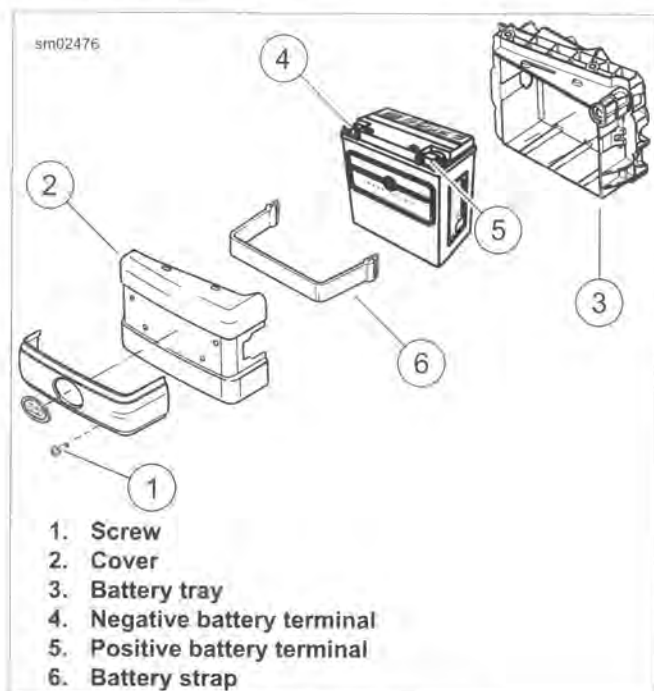

Figure 1-39. Battery Assembly
2. See Figure 1-39. Remove lower fastener (1).
3. Pivot cover (2) outward then lift to disengage slots on cover from projections on battery tray (3).
4. Remove battery negative cable from negative battery terminal (4).
5. Remove battery positive cable from positive battery terminal (5).
6. Remove battery strap (6).
- See Figure 1-39. With battery terminals facing outward, place battery in battery tray. Install battery strap.
- Insert fastener through battery positive cable terminal and into threaded hole of battery positive (+) terminal (5). Tighten fastener to 60-70 in-lbs (6.8-7.9 Nm). Place battery terminal cover over positive battery terminal.
- Insert fastener through battery negative cable terminal into threaded hole of battery negative (-) terminal (4). Tighten fastener to 60-70 in-lbs (6.8-7.9 Nm).
- Place slots on battery cover (2) on projections on battery tray (3). Install screw (1) to secure cover.